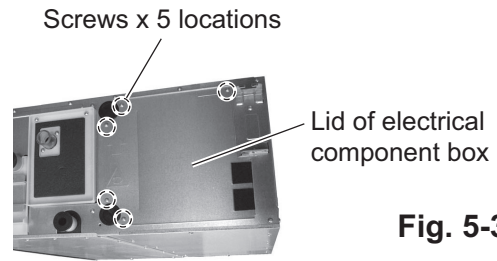

Fig. 5-3
2. Remove the lid of the electrical component box. (Screws x 5 locations: Fig. 5-3)